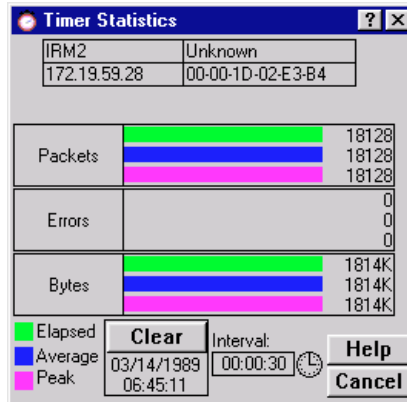

Figure 3-2. Timer Statistics Window
2. Drag down to **Timer Statistics...** and release. The Repeater Timer Statistics window, Figure 3-2, will appear.
The Board and Port Timer Statistics windows are the same as the Timer Statistics window displayed in Figure 3-2, except that they display statistics applicable to the board or port.